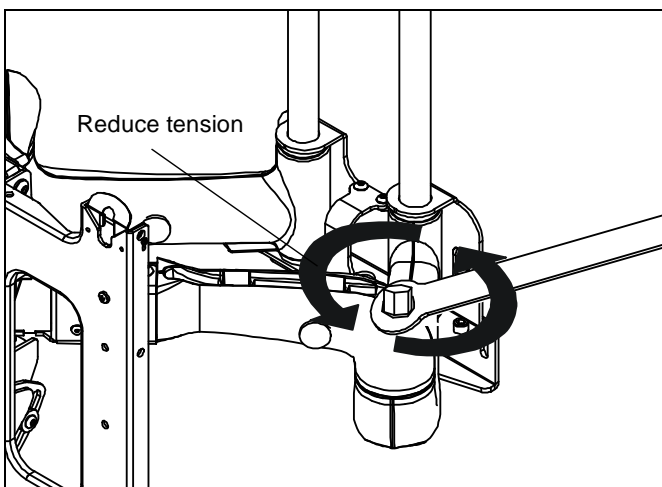

Figure 14
- Pull back on flag on upper mounting hole and press pin down into "Open" position. (See Figure 14)